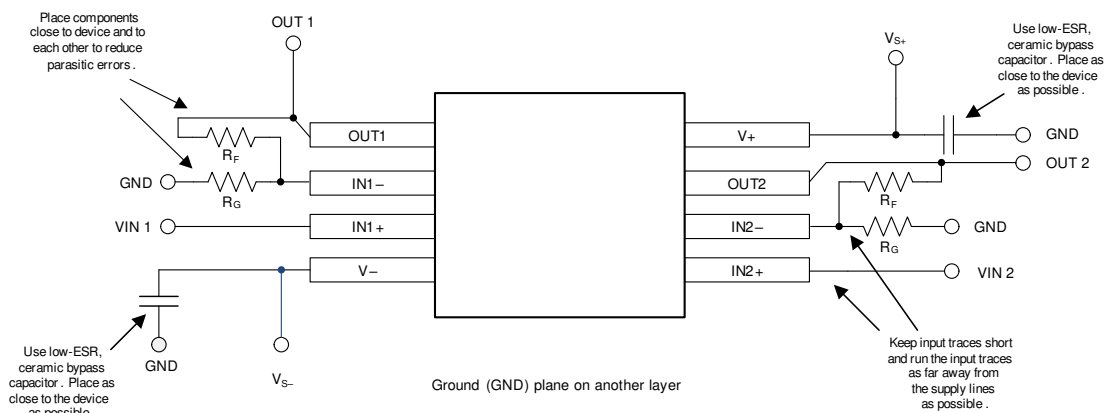

Figure 39. Layout Example
- Place the external components as close to the device as possible, as shown in Figure 39. Keeping R_F and R_G close to the inverting input minimizes parasitic capacitance.